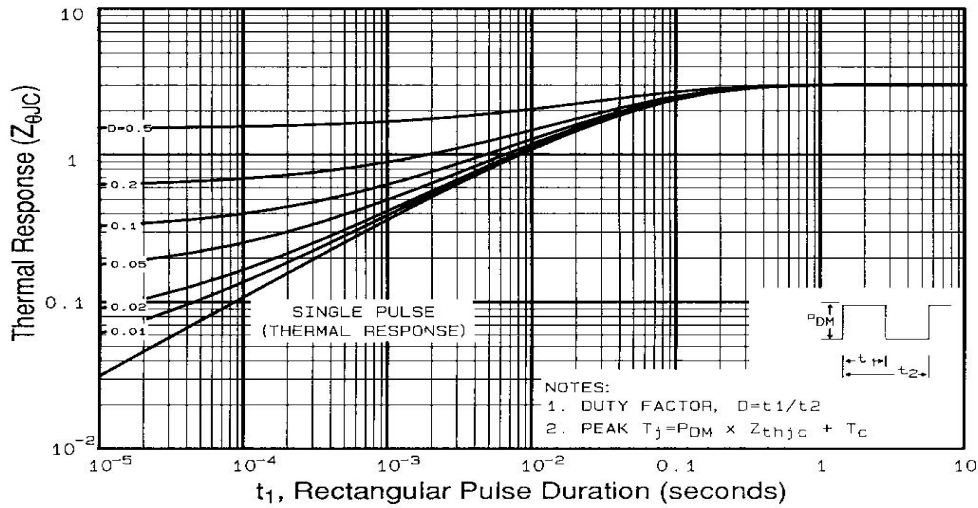

Fig 11. Maximum Effective Transient Thermal Impedance, Junction-to-Case
① Repetitive rating; pulse width limited by max. junction temperature (See Figure 11)
② $V_{DD}=25V$, starting $T_J=25^\circ\text{C}$, $L=5.3\text{mH}$